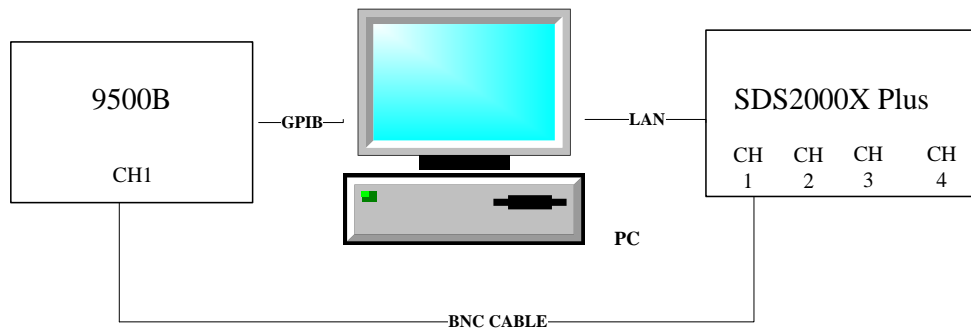

Figure 8 Connecting test instruments for Clock\Trigger Delay
1. Connect the selected channel of the oscilloscope to the 9500B shown as in Figure 8.